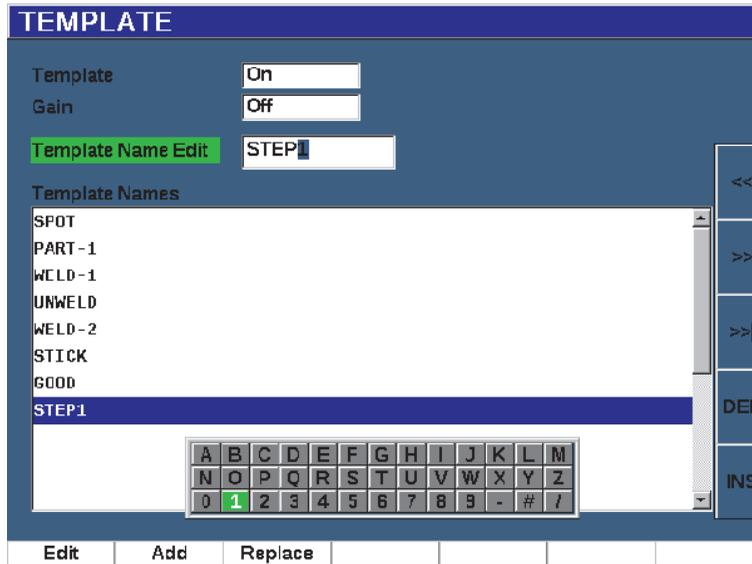

Figure 11-48 Template setup page
2. Press **Setup** (P7 key) to display the Template setup page (see Figure 11-48 on page 293).